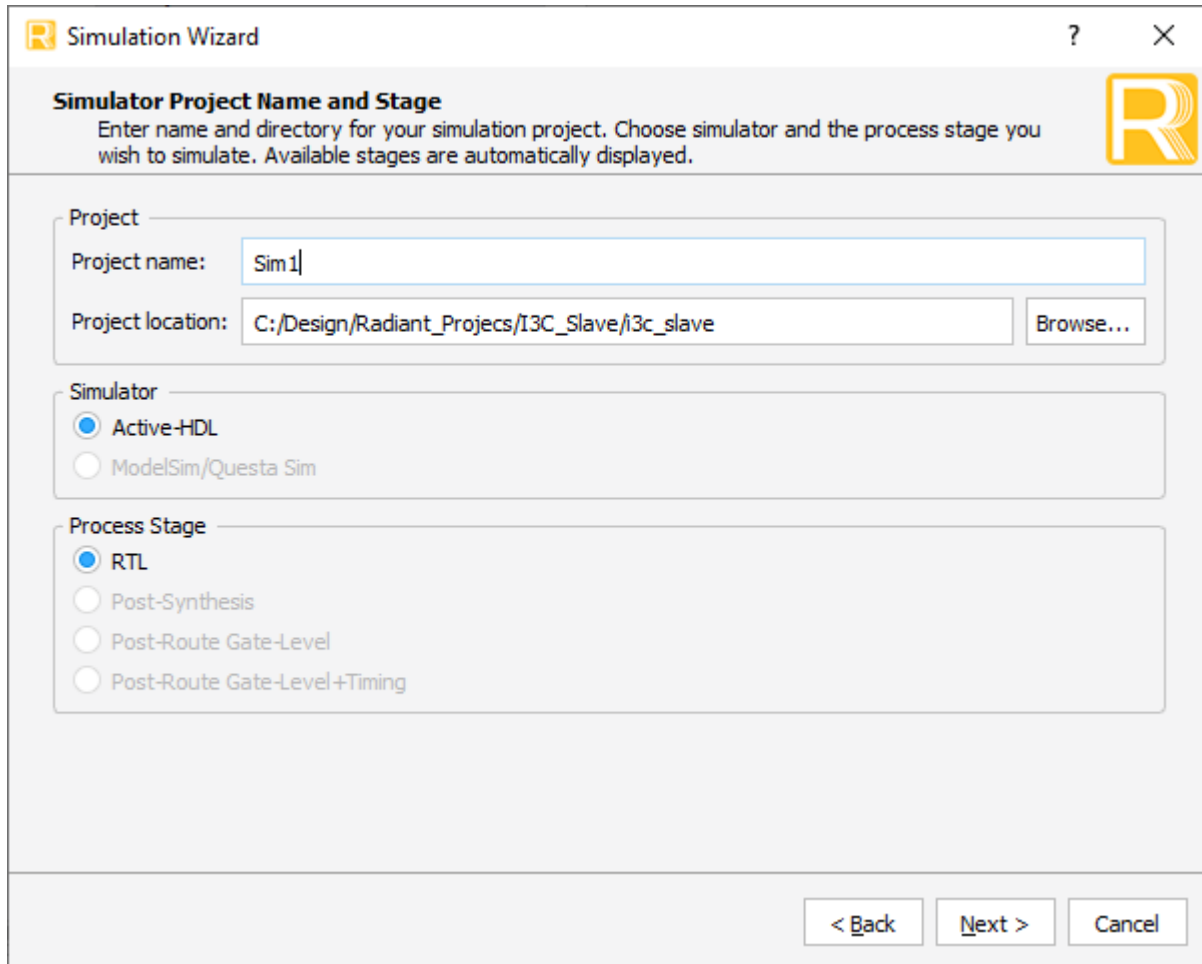

Figure 3.3. Simulation Wizard
1. Click the  button located on the **Toolbar** to initiate the **Simulation Wizard** shown in Figure 3.3.